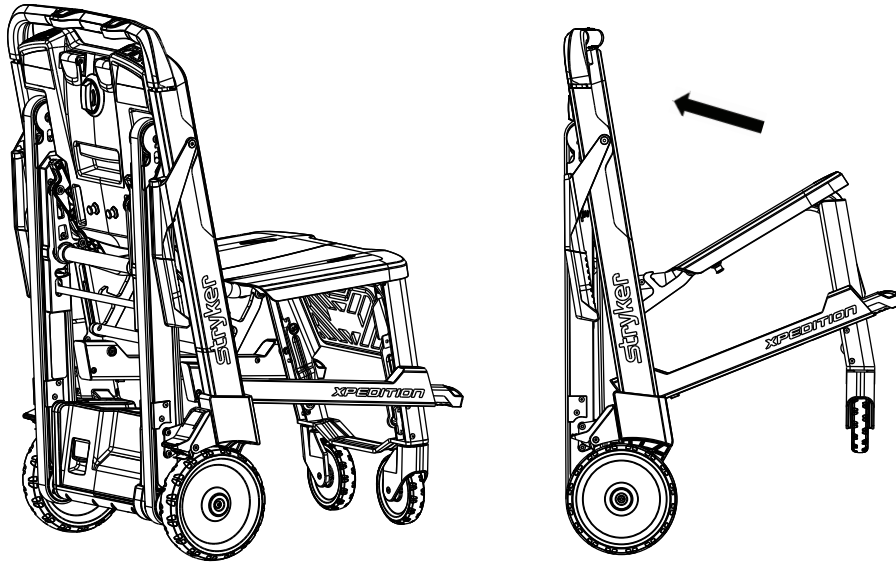

Figure 9 – Folding the chair
3. Fold the seat up to the backrest (Figure 9).